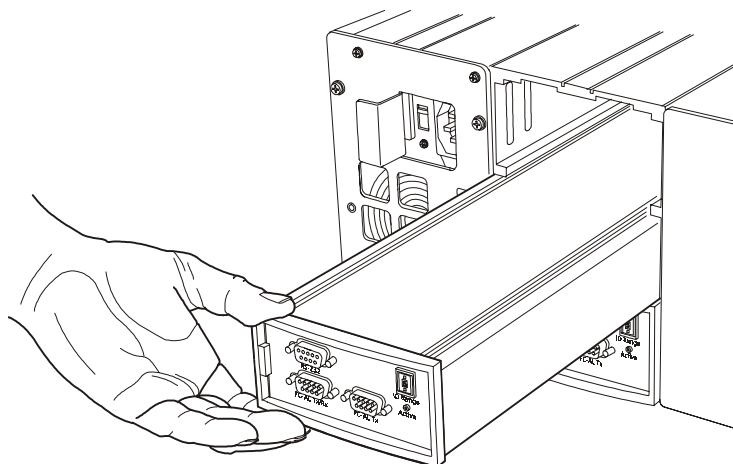

Figure 2-17 Installing a FCAL LRC I/O Module
- 2 Insert the module in the bay and press fully home (Figure 2-17).